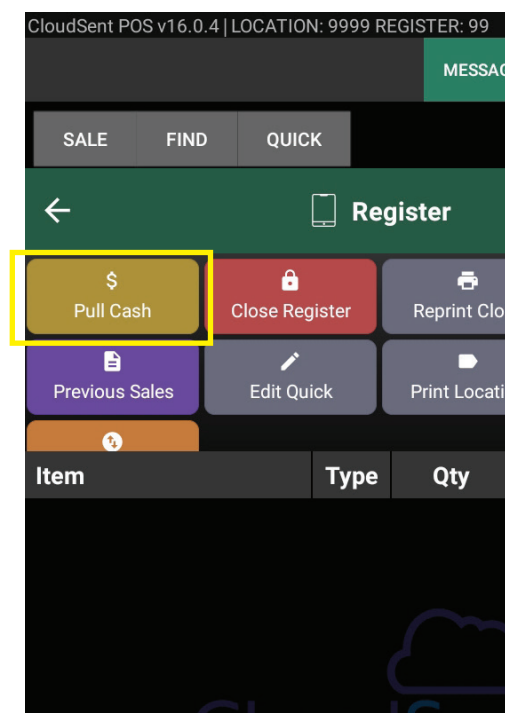

Figure 63
1. Select More > Register > Pull Cash (Figure 63)